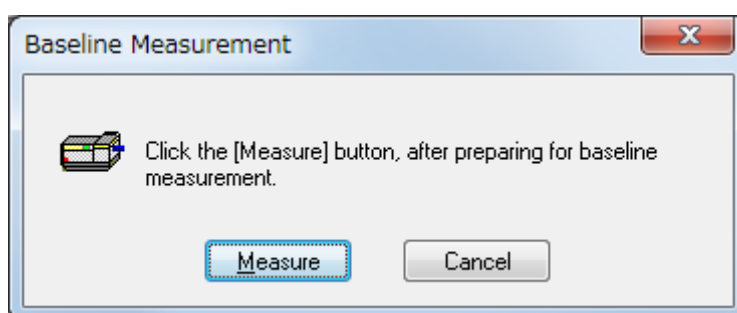

Figure 6.11 [Baseline Measurement] dialog box
*Note: This operation can also be performed by clicking the tool button  [Baseline Measurement]. When the dialog box in Fig. 6.11 is displayed, the baseline measurement can also be started by pressing the <Measure> button.*